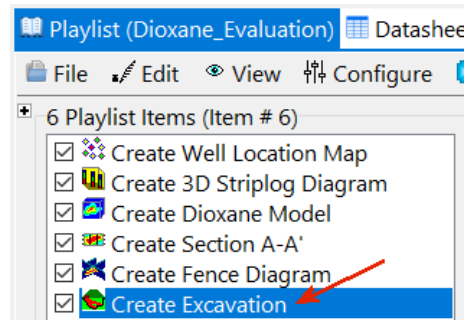

Figure 98
- Click on the *Playlist* button within the upper-right corner of the menu, save these menu settings as “Create Excavation” (Figure 98), and run the *Playlist* to make sure that everything works.